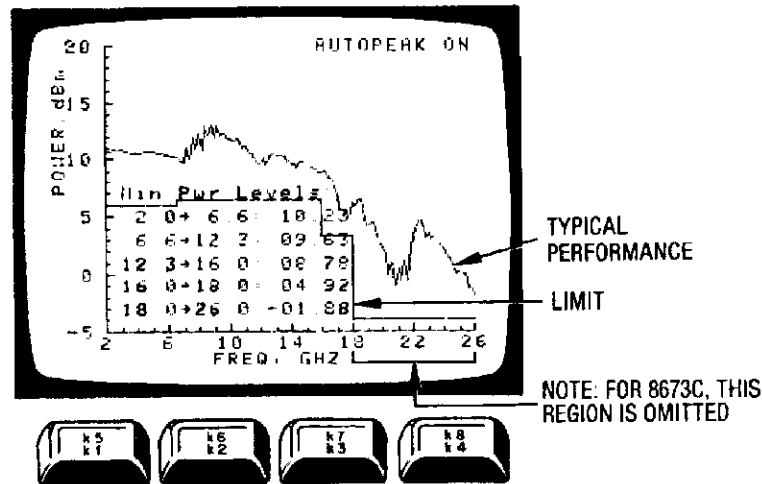

Figure 8-41. HP 8673C/D Power Output Plot, K Band Amplifier Out, Normal Mode
18. Compare the plots just taken to those in figures 8-41 through 8-45. Refer to table 8-14 for the HP 8673C or table 8-15 for the HP 8673D, for possible failure modes, and take the indicated action.